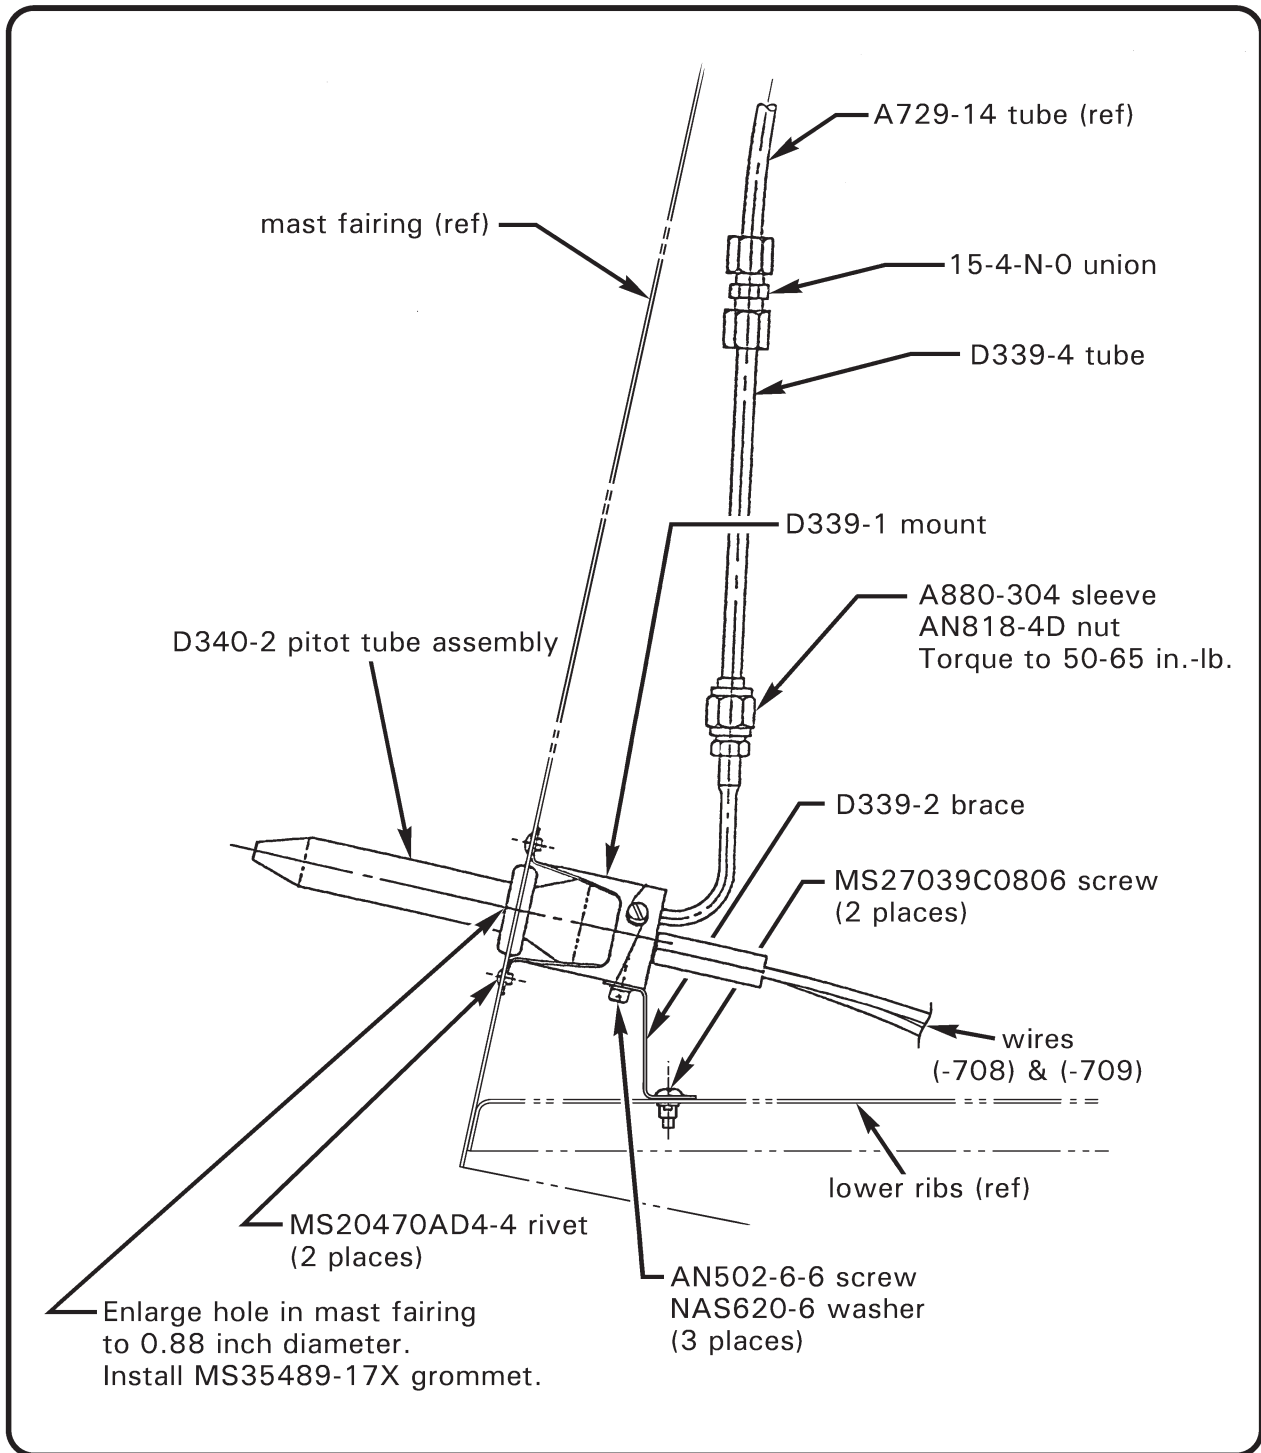

FIGURE 2 Heated pitot installation
9. Refer to Figure 2. Open mast fairing and remove pitot tube and elbow. Enlarge existing pitot tube hole in mast fairing to 0.85–0.91 inch diameter. Deburr hole and clean up debris. Alodine and/or prime/paint hole edge as described in NOTE below. Install MS35489-17X grommet.
12. Refer to Figure 2. Assemble D340-2 pitot tube, D339-1 mount, and D339-2 brace using (3) AN502-6-6 screws & (3) NAS620-6 washers as shown. Secure screws using 0.032-inch diameter safety wire.
13. Using D339-1 mount as template, locate and drill (2) 0.127–0.133 inch diameter holes on vertical centerline of 0.88 inch diameter hole. Deburr holes. At installer's discretion, alodine and/or prime/paint hole edges as described in NOTE above. Clean up debris and remove masking. Attach mount using (2) MS20470AD4-4 rivets as shown. Attach brace to lower rib using (2) MS27039C0806 screws.
14. Refer to Figure 2. Attach D339-4 tube to pitot tube assembly using A880-304 sleeve and AN818-4D nut as shown. Torque nut to 50-65 in-lb. Cut off 7.75 inches of exposed end of A729-14 (pitot) tube, retaining cut portion to use for stand-offs in next step. Attach remaining portion of A729-14 tube to D339-4 tube using 15-4-N-O union.